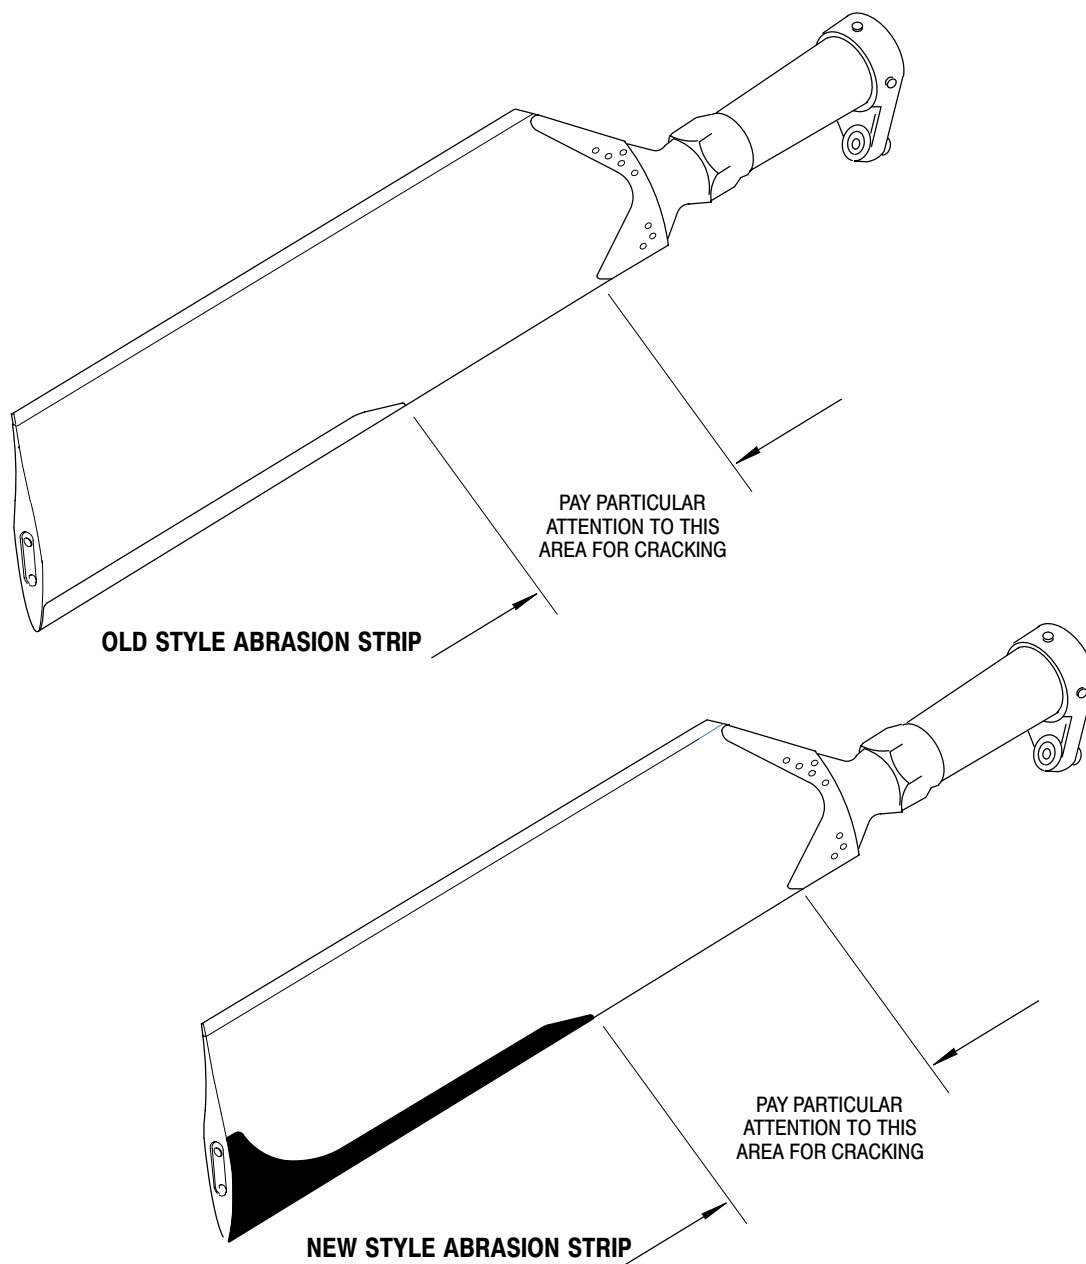

Figure 1. Tail Rotor Blade Inspection
(Refer to figure 1)
- (a). Inspect leading edge for any evidence of cracking in the area shown in Figure 1. No cracks are allowed. If cracks are suspected, perform a dye penetrant inspection of the suspect area as follows: